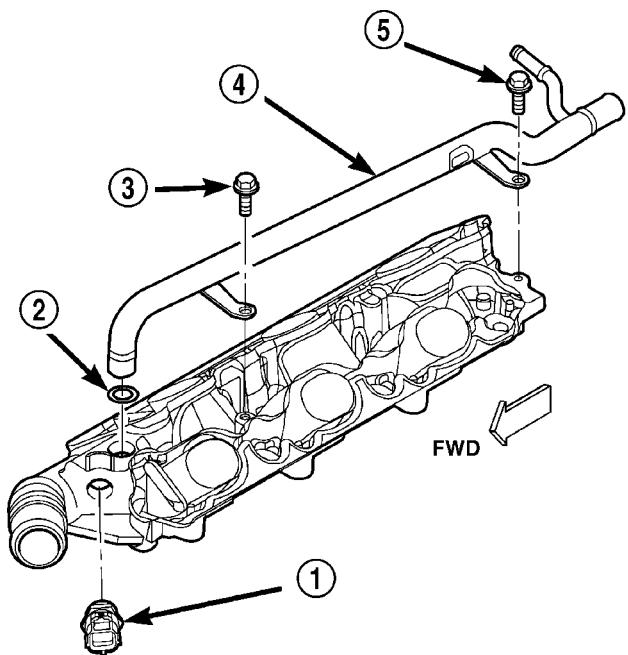

Fig. 12 Heater Supply Tube - 3.2/3.5L
- (1) Drain cooling system. (Refer to 7 - COOLING - STANDARD PROCEDURE)
- (2) Remove upper and lower intake manifold. (Refer to 9 - ENGINE/MANIFOLDS/INTAKE MANIFOLD - REMOVAL)
- (3) Position lower intake manifold upside down on bench and remove the tube retaining bolt (Fig. 12).
- (4) Remove tube from manifold and discard O-ring.
- (1) Clean heater tube sealing surfaces.
- (2) Inspect heater tube O-ring. Replace as necessary.
- (3) Lubricate O-ring with a silicone type grease such as Mopar® Dielectric Grease.
- (4) Install O-ring on heater tube (Fig. 12).
- (5) Install heater tube on manifold.
- (6) Install retaining bolts and tighten to 12 N·m (105 in. lbs.) (Fig. 12).
- (7) Install lower and upper intake manifolds. (Refer to 9 - ENGINE/MANIFOLDS/INTAKE MANIFOLD - INSTALLATION)
- (8) Refill cooling system. (Refer to 7 - COOLING - STANDARD PROCEDURE)